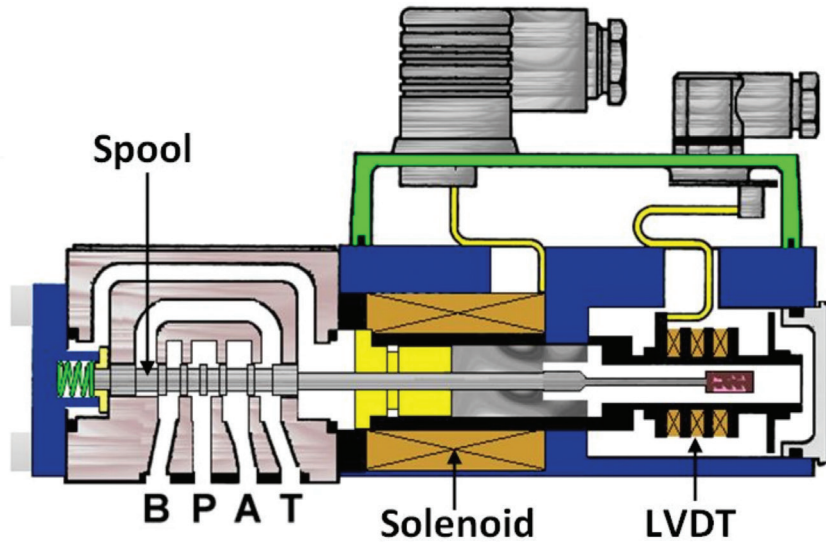

Figure 2. Components of a proportional valve
linear variable differential transformer (LVDT), which is used to electrically specify the position of the valve spool. The feedback from the LVDT is normally a direct current (DC) voltage signal. The actual components of the proportional valve can be seen in the valve cutaway in Figure 2.